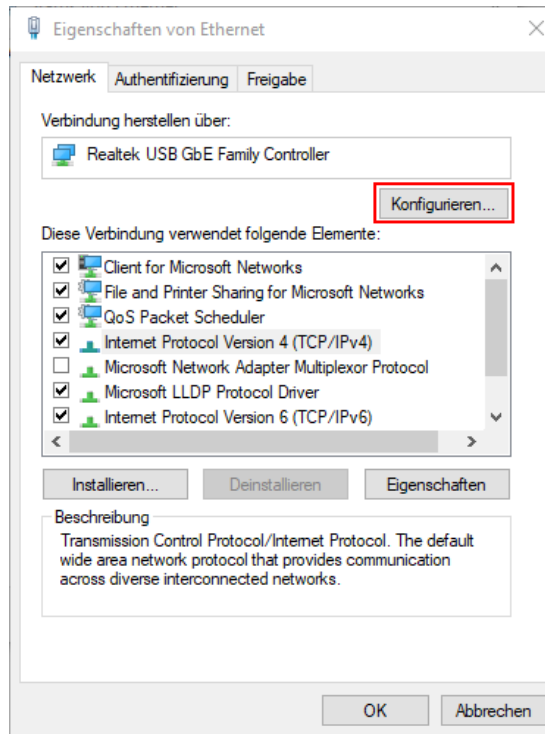

Figure 10: Ethernet adapter settings in Windows 10
- a. In Windows 10: network settings --> ethernet adaptor settings --> properties (see Figure 10)